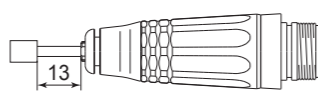

Fig. 1
- ① The Attachment is designed for hand use. Never install the Attachment or any hand tool on a machine such as a special purpose machine, NC lathe or mill.
- ② Do not touch the cutting tool while it is rotating. It is very dangerous.
- ③ Wear safety glasses, dust mask and use a protective cover around the Attachment whenever the Attachment is rotating.
- ④ When installing a cutting tool, tighten the collet correctly and check again the collet before use. Do not over-tighten the collet. This may cause damage to the spindle.
- ⑤ Do not use grindstones with an outside diameter over $\phi 12\text{mm}$.
- ⑥ Do not exceed 13mm of overhang for mounted grindstones as shown in Fig. 1. If the overhang must exceed 13mm, reduce the motor speed in accordance with Table. 1.
- ⑦ Do not use bent, broken, chipped, out of round or sub-standard cutting tools as they may cause shatter or explode.